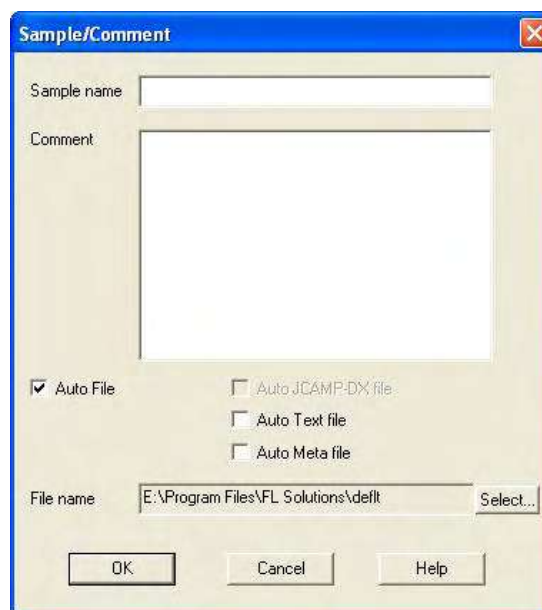

Fig. 6-8
- (1) Click the  (sample name/comment input) button on the Measurement toolbar. The window in Fig. 6-8 will appear.